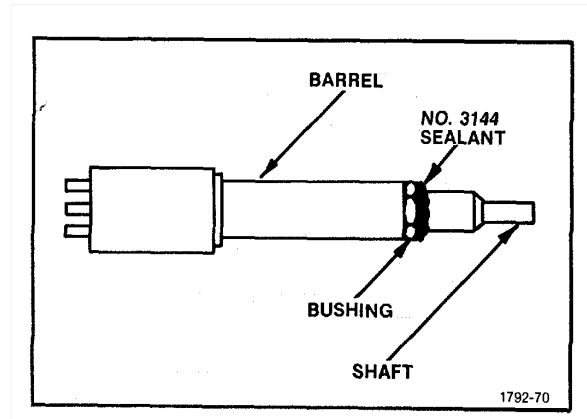

Figure 5-16. Alignment of Battery Meter
2. Install Meter in Front Panel with markings aligned as shown in Fig. 5-16.